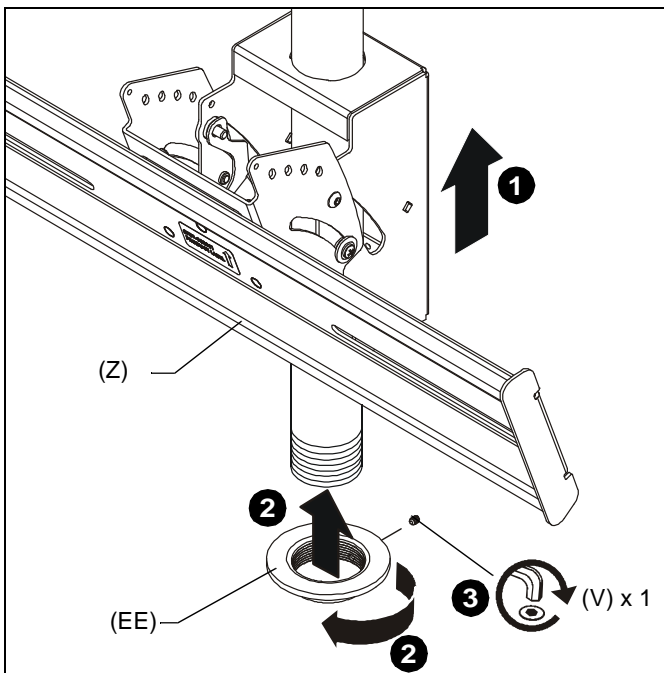

Figure 1
1. Slide ceiling mount (Z) up from below onto installed column (not included). (See Figure 1)
2. Thread bottom coupling (EE) onto installed column until tight, with a minimum of four threads engaged.
3. Install and tighten one 10-24 x 1/4" set screw (V) into bottom coupling (EE). (See Figure 1)